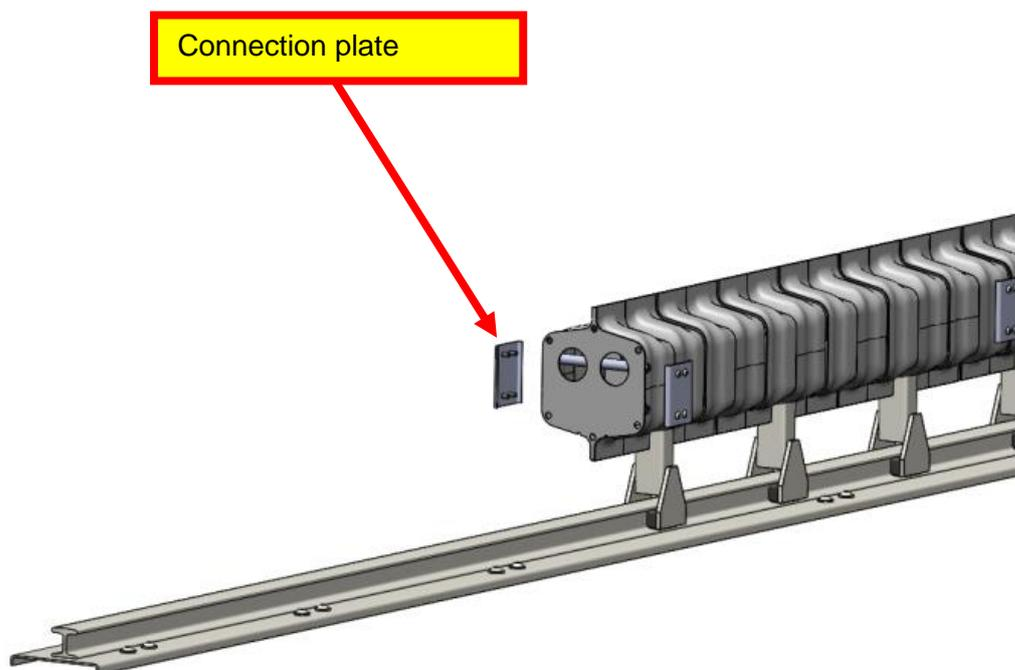

Fig. 24: Removing procedure of the modular bay
4. Unscrew the 4 M10 bolts on the 2 lateral plates (Fig. 24) which connects the back part of the front modular bay with the front part of the next one.